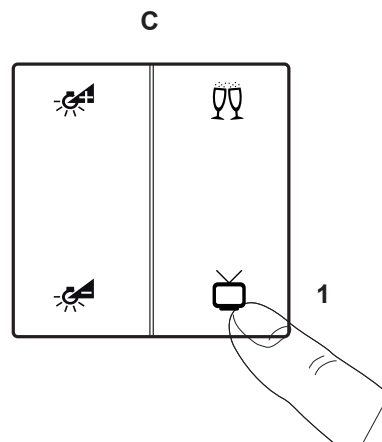

Figure 30: Saving new scene parameters
- Hold the button for "Scene TV" for longer than 5 s (Figure 30, C-1)